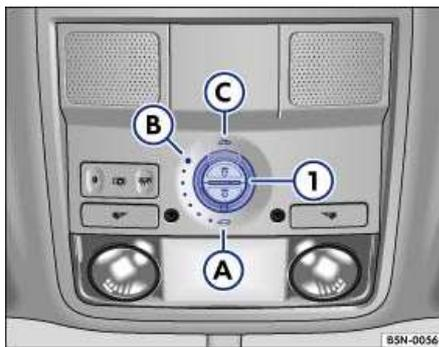

Fig. 29 Section of headliner: rotary switch for Panorama sunroof.
- Turn the switch ⇒ Fig. 29 (1) to position (A).
- Turn the switch ⇒ Fig. 29 (1) to position (B); you should feel it engage into position. The roof opens to the comfort position and the wind deflector moves automatically to the front edge of the roof. Wind noises are reduced to a minimum in the comfort position. To move to an intermediate position, turn the switch to the appropriate setting.